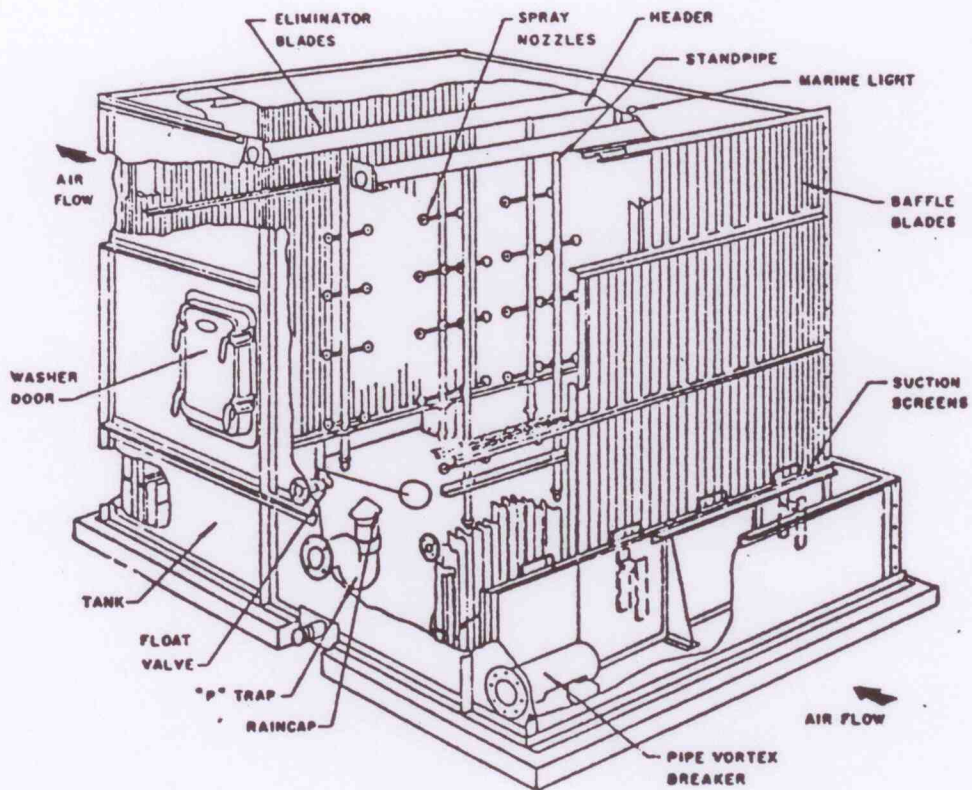

Figure 9. Air Washer Station (Courtesy Carrier Corporation).
- Air Washers (Fig. 9) represent a special case of an open circulating water system since such systems are designed to cleanse and condition air in a working environment. The textile industry employs this air washing equipment for cleaning plant air, controlling humidity and for heating in the winter and cooling in the summer.